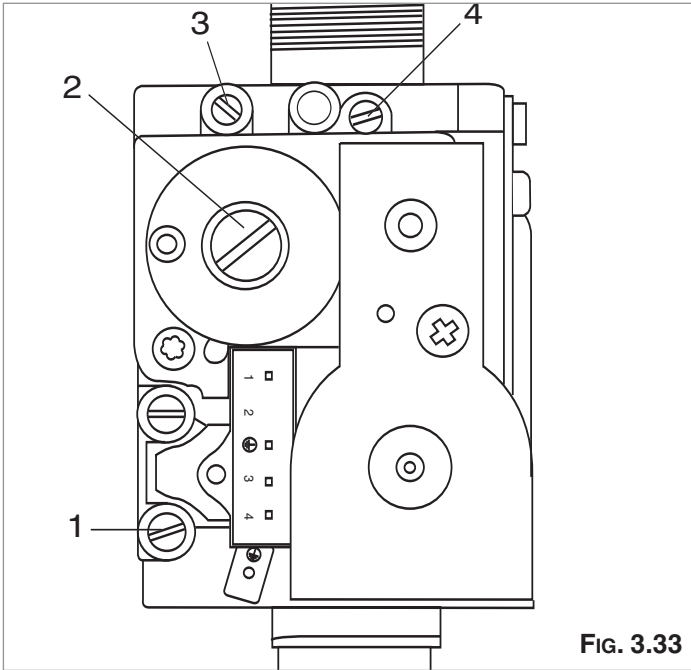

FIG. 3.33
1. Loosen screw "1" (Fig. 3.33) and connect the pressure gauge connection pipe into the test point.
2. Set the boiler to minimum power via the test function (see paragraph 3.6.1) or by pressing the **RESET** button for 5 seconds and then pressing the **-** button on the control panel, ensure the dashes are at the bottom of the display (see Fig. 3.30). Ensure the CO₂ value on the analyser corresponds with the value indicated in table 4D. If this is not the case, adjust screw "2" (Fig.3.33) with a screwdriver in small intervals, allowing the reading to become stable before adjusting further, until you obtain the correct CO₂ reading. Allow the reading to become stable for at least 4 minutes.
3. When the check is over, replace the cap on screw "2" (Fig. 3.33).
1. With the combustion analyser already connected to the analysis point, set the boiler to maximum power via the test function (see paragraph 3.6.1) or by pressing the **RESET** button for 5 seconds and then the programming keys **+** and **-** ensuring the dashes are at the top of the display (see Fig. 3.30). Ensure the CO₂ value on the analyser corresponds with the value indicated in table 4D. If this is not the case, adjust screw "4" with a screwdriver in small intervals allowing the analyser reading to stabilise before adjusting further (Fig. 3.33), until you obtain the correct CO₂ reading. Allow the reading to become stable for at least 4 minutes.